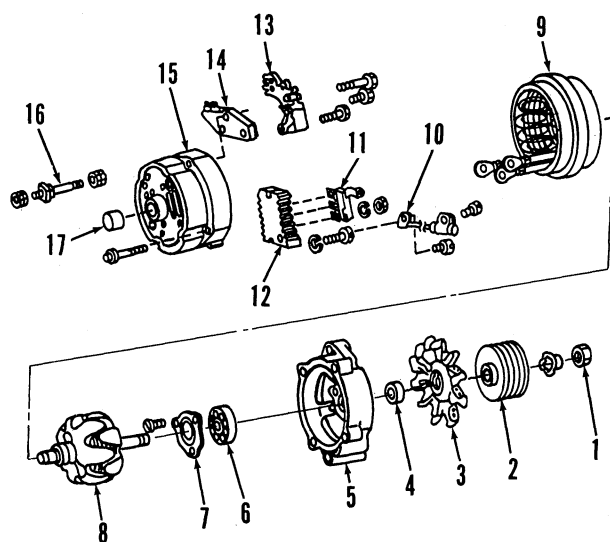

Fig. 91—Exploded view of Delco-Remy alternator used on tractors that are not equipped with Sound-Gard body.
88. OVERHAUL. Before beginning disassembly, scribe indexing marks across alternator housing to aid in alignment during reassembly. Remove through-bolts then pry front and rear housings apart. Remove pulley nut (1—Fig. 91), pulley and fan, then withdraw rotor (8).